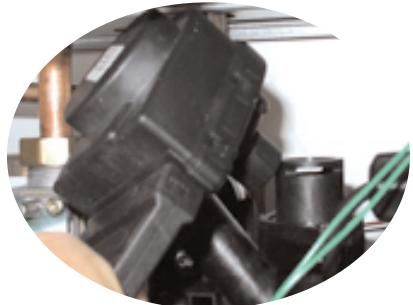

Fig. 76
3. Remove the clip "P2" and the 3 way valve motor (see Fig. 76);